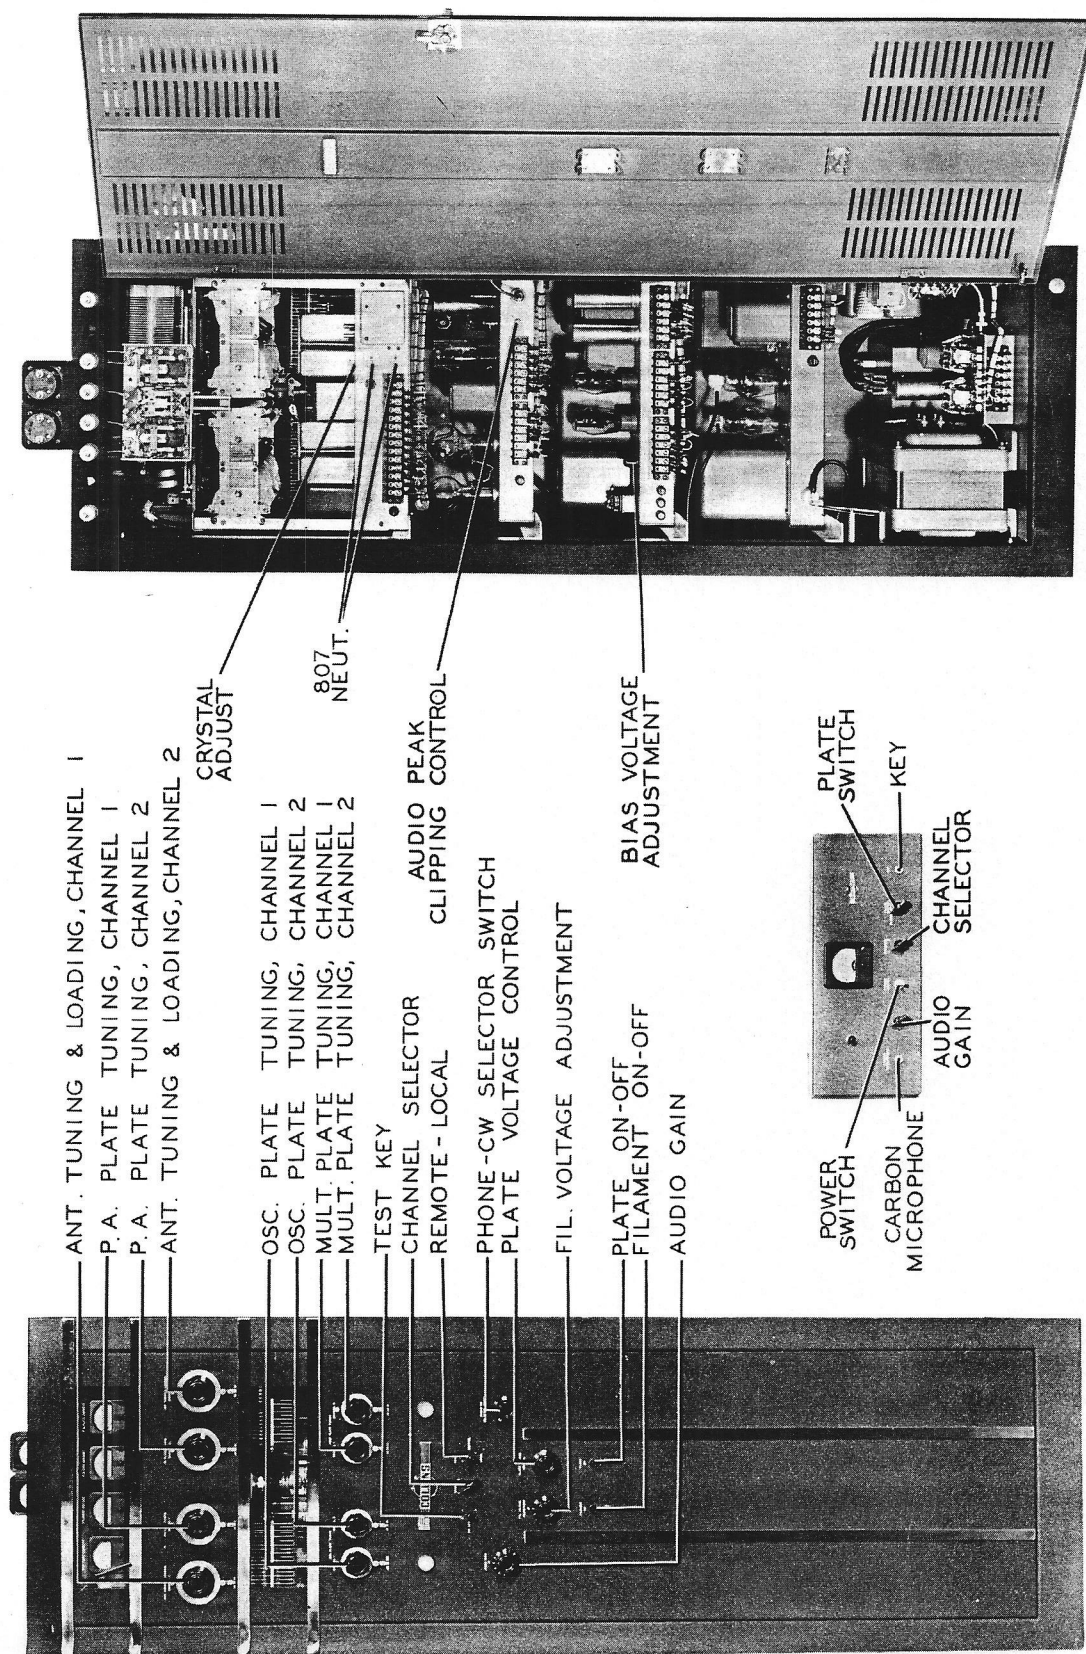

Figure 3-1. Control Functions
Two holes 7/8" in diameter are available in the base of the cabinet for power leads, if conduit type of wiring is used; otherwise, the power leads may enter the cabinet through holes in the base and thence through the above mentioned holes to the terminal board. Refer to figure 3-1 for location of the power entry holes. A 1-1/2" hole in the side of the cabinet at base level is also available for power lead entry.
3.1. GENERAL. - After the installation wiring is complete and the tubes, fuses, crystals and inductors have been properly positioned in their respective sockets the equipment is ready for initial operational adjustment. All important operating controls are located on the front panel of the transmitter and each is clearly designated as to function. The following paragraphs list the control designations and circuit elements controlled by each. Refer to figure 3-1.